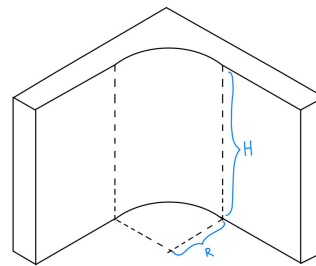

Figure 1. Diagram of a radiused corner, showing radius (R) and height (H)
Test item 1 concerned rounded corners for machined parts. In machining, material is removed through drilling, cutting, and sanding. These tools are generally cylindrical and result in radiused internal corners. Radiused corners also have lower stress concentrations than sharp corners, making them more durable. The client set the rule as $R > \frac{1}{4}H$, with R and H labeled in Figure 1.